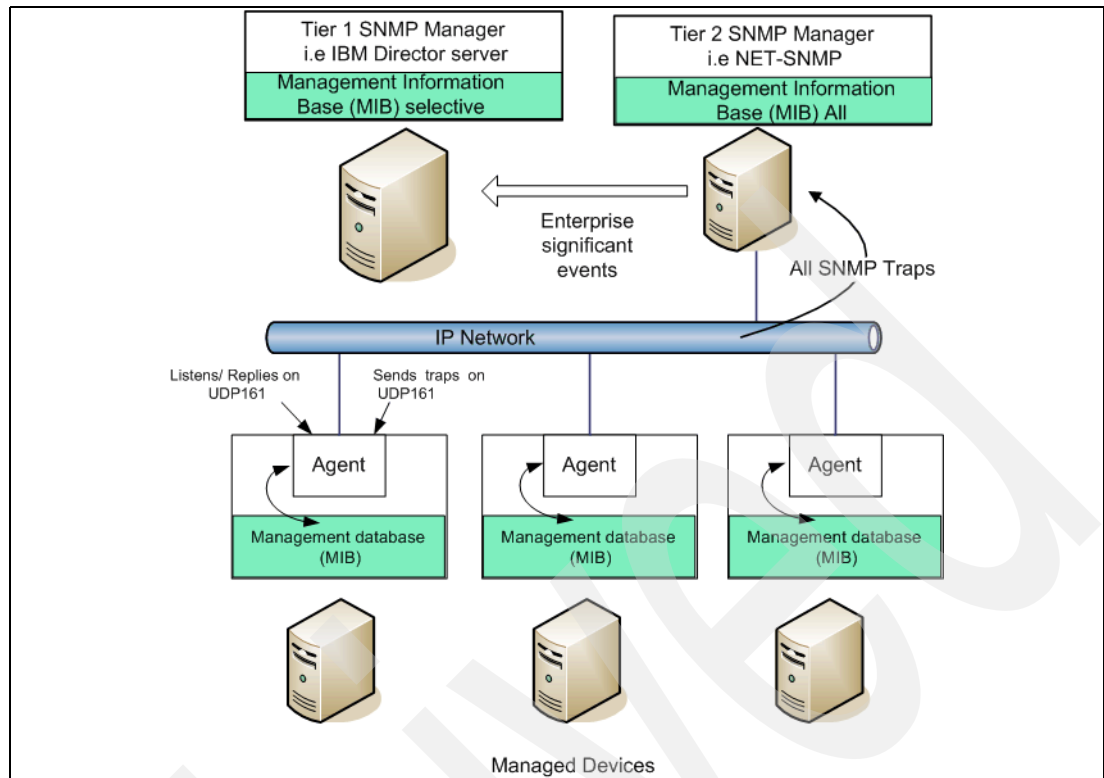

Figure 10-1 SNMP architecture and communication
**Tip:** As depicted in Figure 10-1, we use Net-SNMP as a tier 2 SNMP manager. We use the RSM for DR550 server to run NET-SNMP, because its the only external server that is allowed to be attached to the DS4000 controllers and to the DR550 internal networks. It receives all events (traps) from the managed devices but forwards only enterprise-significant traps (events) to the tier 1 management application (IBM Director). We recommend this two-tier approach because IBM Director cannot filter out events or eliminate duplicates and the amount of messages dispatched or displayed at the Director Console would be overwhelming for the operators.